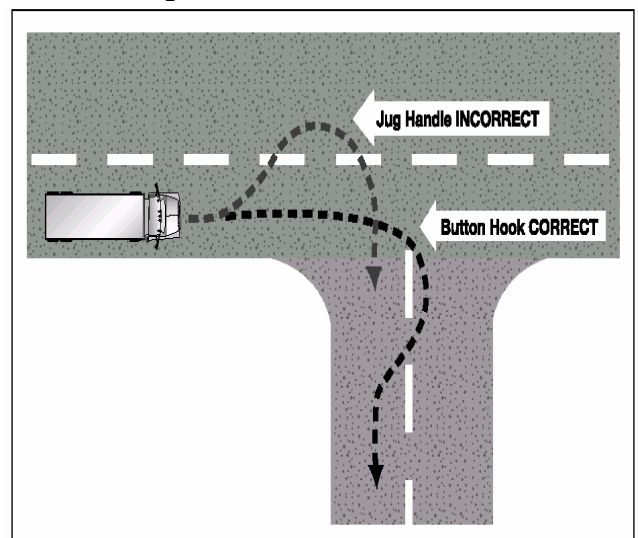

Figure 2.13
- If you must cross into the oncoming lane to make a turn, watch out for vehicles coming toward you. Give them room to go by or to stop. However, don't back up for them, because you might hit someone behind you. See the figure 2.13.